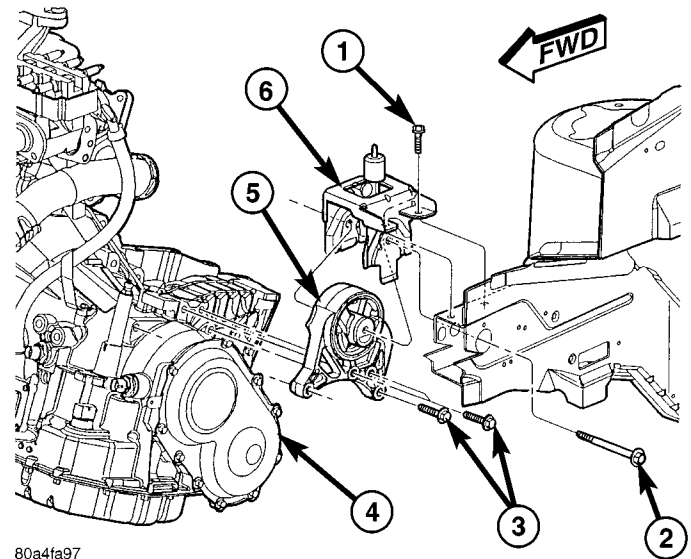
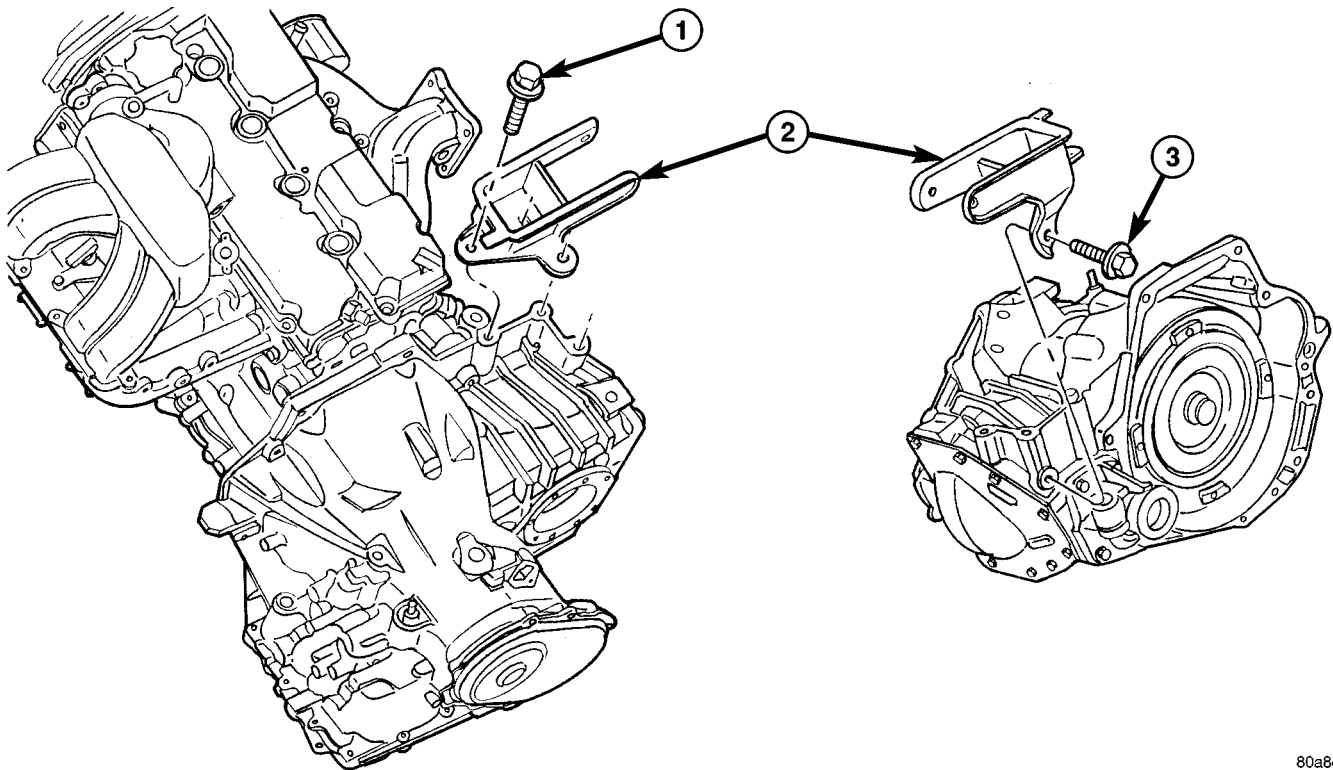

Fig. 14 Left Mount-to-Bracket
Fig. 13 Rear Mount Bracket - Typical
(12) Remove rear mount bracket-to-transaxle case bolts (Fig. 13).
(13) Remove transaxle upper bellhousing-to-block bolts.
(14) Raise vehicle on hoist.
(15) Remove transaxle oil pan and drain fluid into suitable container.
(16) Remove front wheel/tire assemblies.
(17) Remove left and right halfshaft assemblies. (Refer to 3 - DIFFERENTIAL & DRIVELINE/HALF SHAFT - REMOVAL)
(18) AWD models: Remove power transfer unit. (Refer to 21 - TRANSMISSION/TRANSAXLE/POWER TRANSFER UNIT - REMOVAL)
(19) Remove rear mount bracket-to-transaxle case lower (horizontal) bolt (Fig. 13).
(20) Remove front mount/bracket assembly.
(21) Remove starter motor.
(22) Remove lateral bending brace.
(23) Remove inspection cover.
(24) Remove torque converter-to-drive plate bolts.
(25) Support engine/transaxle assembly at engine oil pan with screw jack and wood block.
(26) Partially remove left wheelhouse splash shield to gain access to and remove upper mount thru-bolt (Fig. 14).
(27) Lower engine/transaxle assembly with screw jack.
(28) Obtain helper and/or transmission jack. Secure transmission jack to transaxle assembly.
(29) Remove upper mount bracket from transaxle (Fig. 14).
(30) Remove remaining transaxle bellhousing-to-engine bolts.
(31) Remove transaxle assembly from vehicle.